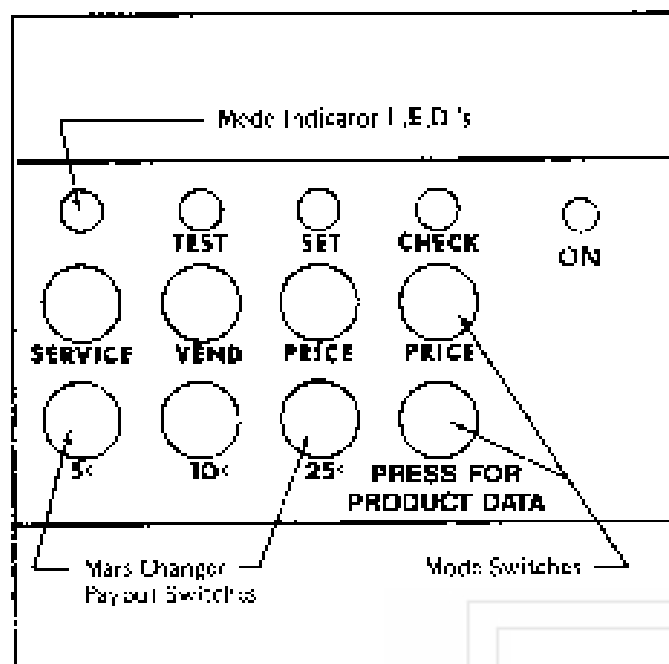
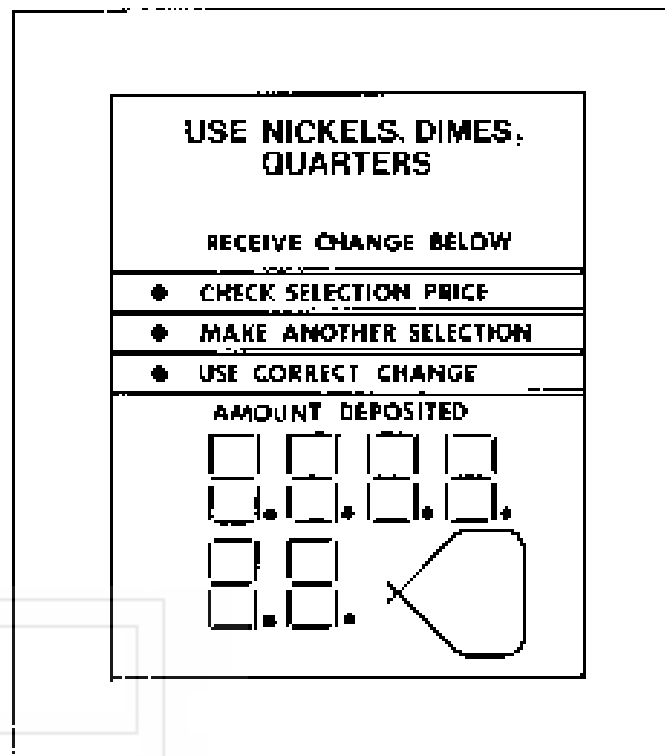

Figure 10. MODE SWITCHES.
Figure 20
The mode switches are located on the control board. They allow for control of the following in-machine functions: Set price mode, check price mode, test vend mode, service mode and serial number mode (see Figure 10). The
- A. Press the mode switch "test price" button on the control panel (Figure 10). The L.E.D. above the set
- A. Press the mode switch "check price" button on the control board (Figure 10). The L.E.D. above the check price button will light and the selection panel display will be blank.
A. Press the mode switch "set price" button on the control board (Figure 10). The L.E.D. above the set price button will light and the display located on the selection panel will be blank. Any selection programmed now will be removed from the operating program. This would be done when shelves are moved or the number of selections change (Example: Replacing a five selection shelf for a ten selection shelf).
A. Press the mode switch "check price" button on the control board (Figure 10). The L.E.D. above the check price button will light and the selection panel display will be blank.
- A. Press the mode switch "check price" button on the control board (Figure 10). The L.E.D. above the check price button will light.
- A. Press the mode switch "test vend" button on the control board (Figure 10). The L.E.D. above the test vend button will light and the display located on the selector panel will be blank. The machine is now ready to operate exactly under the same conditions as in the operate mode, so you will have to use money for the testing. After all servicing and testing has been made return the machine to the operate mode. The machine is now ready for normal customer usage.
- A. Press the mode switch "service" button located on the control board (Figure 10). The L.E.D. above the service mode button will light and the selection panel L.E.D.'s will all light (Figure 20). This tells the service person if all L.E.D.'s are in operating condition and that the Control Board is operating.
- C. If a non-functioning motor exists, move the selection on paper and repeat step B. Continue this procedure until all non functioning selections have been displayed, recorded and the selection panel display reads all 8's (Figure 20).